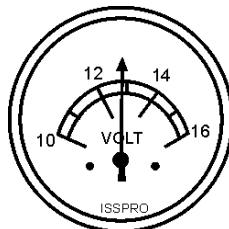

Figure 27. Battery Voltage Gauge
11. The battery voltage gauge (Figure 27) will indicate the voltage of the battery when the generator is operating. Under normal operating conditions this voltage is between 11.2 and 15.2 volts.